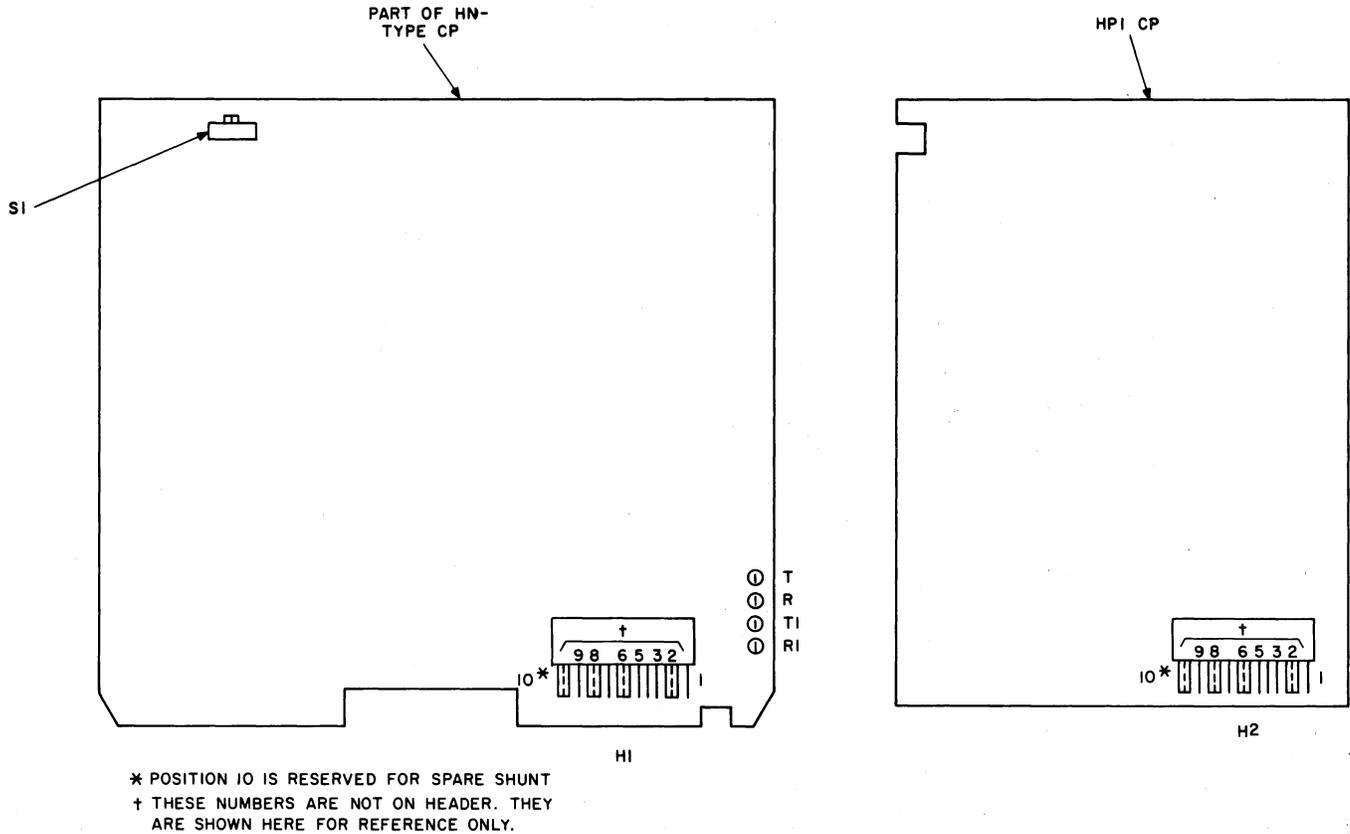

Fig. 3—DSU Option Switch and Headers
2.03 For the newer manufactured CPs that use the right angle headers, HP1 CP contains header H2, and HN-type CPs contain switch S1 and header H1 which are used to select the specific options. The switch and header locations are shown in Fig. 3 and the options are given in Table C. Figure 4 is a representation of H1 and H2 showing the ten positions and the shunts. To install options, the shunts are slipped over the two pins which make up one position. Four shunts are provided with the header. One shunt is a spare and should be stored in position 10.